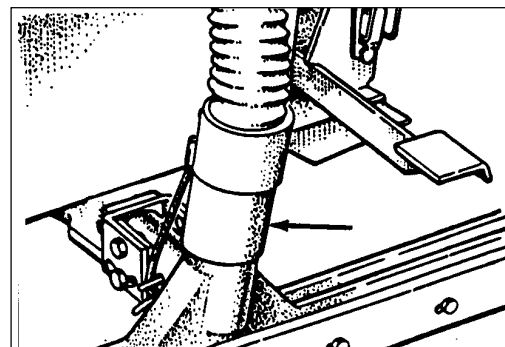

Figure 17
5. Attach the squeegee hose to the hose connection on top of squeegee. See figure 17.
3. Remove the cotter pin from the squeegee bracket and remove the squeegee. See Figure 17.